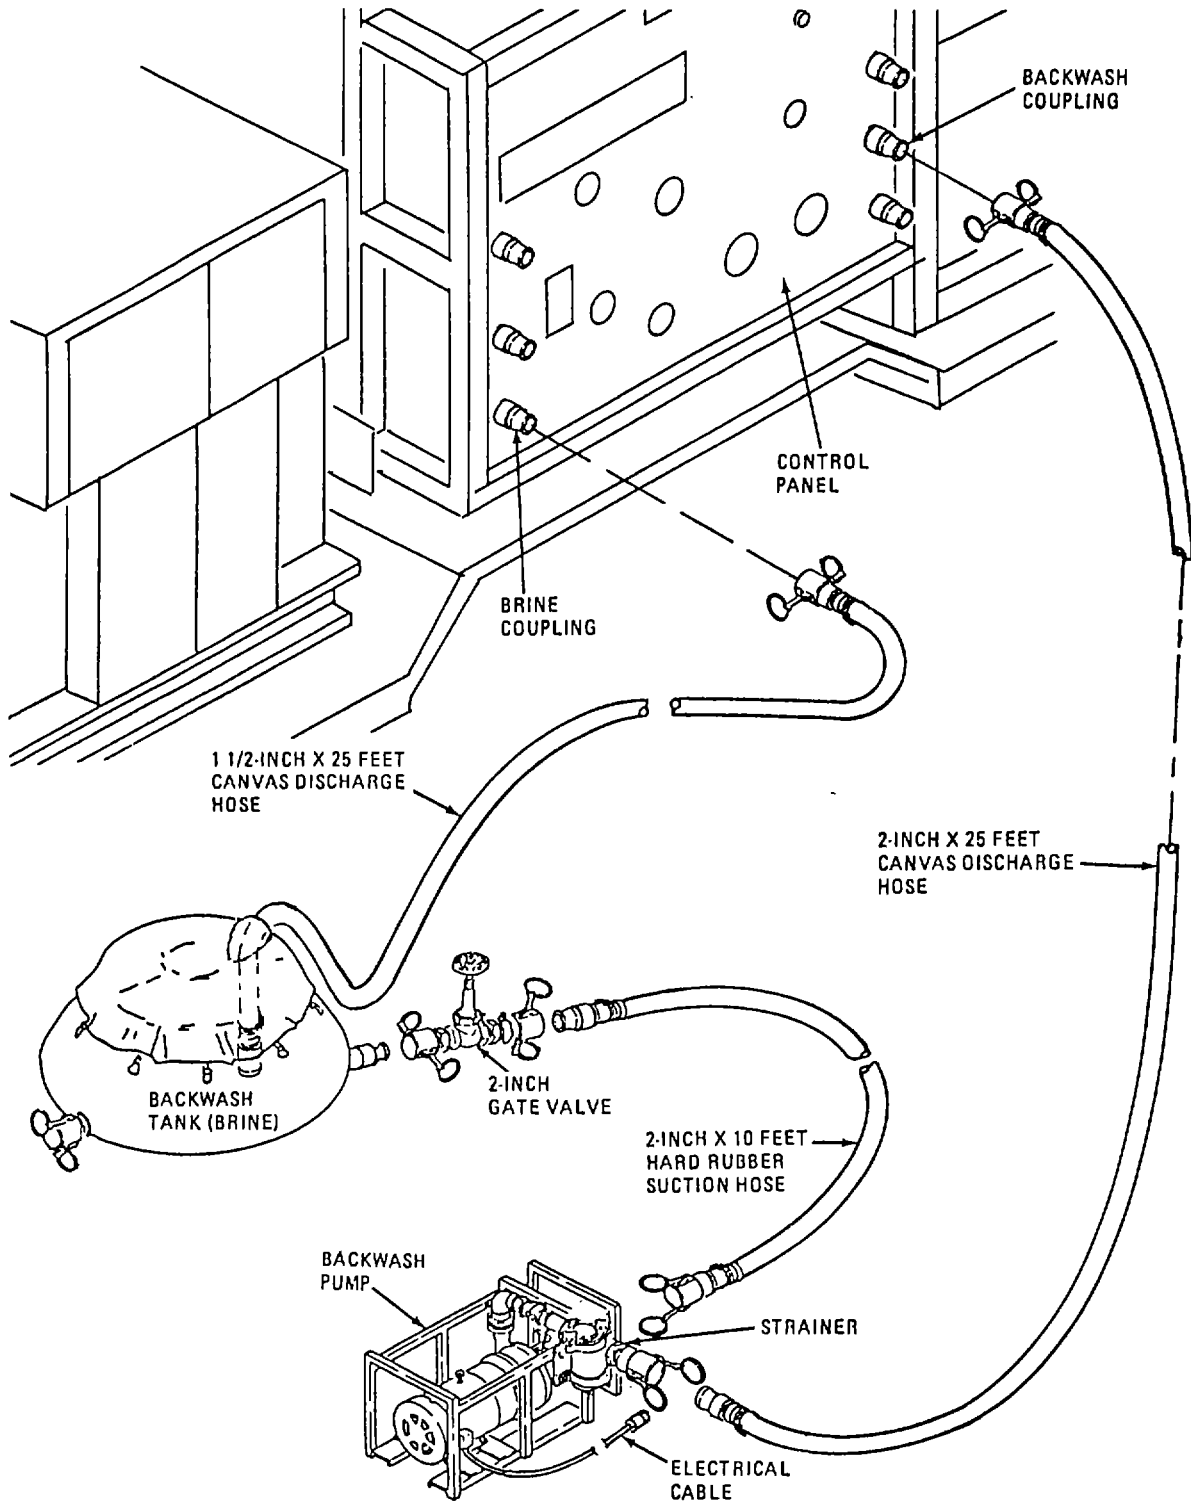

Figure 2-37. Backwash System Setup.
- p. Setup Backwash Water System. Refer to figure 2-37.